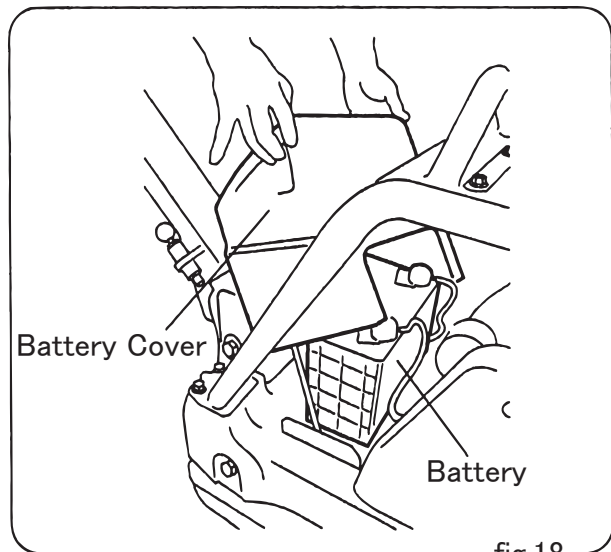

fig.18
a. How to remove the battery : (fig. 18/19)
- ① With M8 nuts (x4) removed, take the cover off.
- ② Disconnect battery terminals. Disconnect negative terminal first and, for re-connection, connect positive terminal first, before finally connecting the negative terminal.